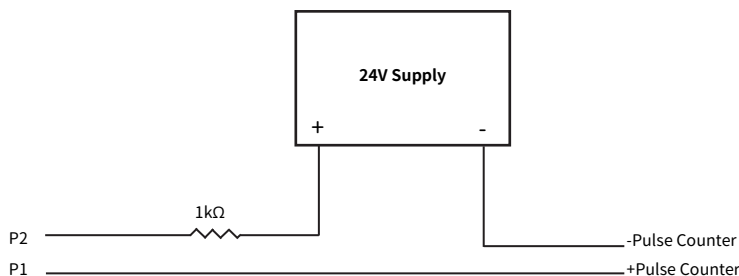

Figure 3-2 Pulse Output Wiring Diagram
- A 1 kilo ohm resistor is suggested to be used in series to limit the current to the P2 terminal (refer to Figure 3-2 above).